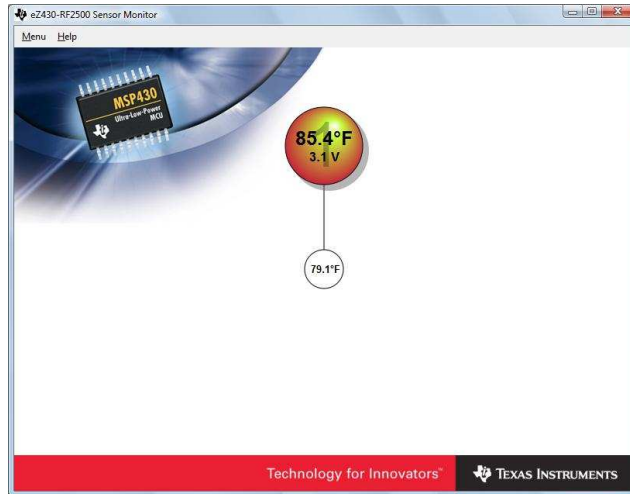

Fig. 1. Section 2.1 is done when you have a similar window on your screen.
- You see the temperature of the access point. Switch on your end Device, which appears on the screen (see Fig. 1).